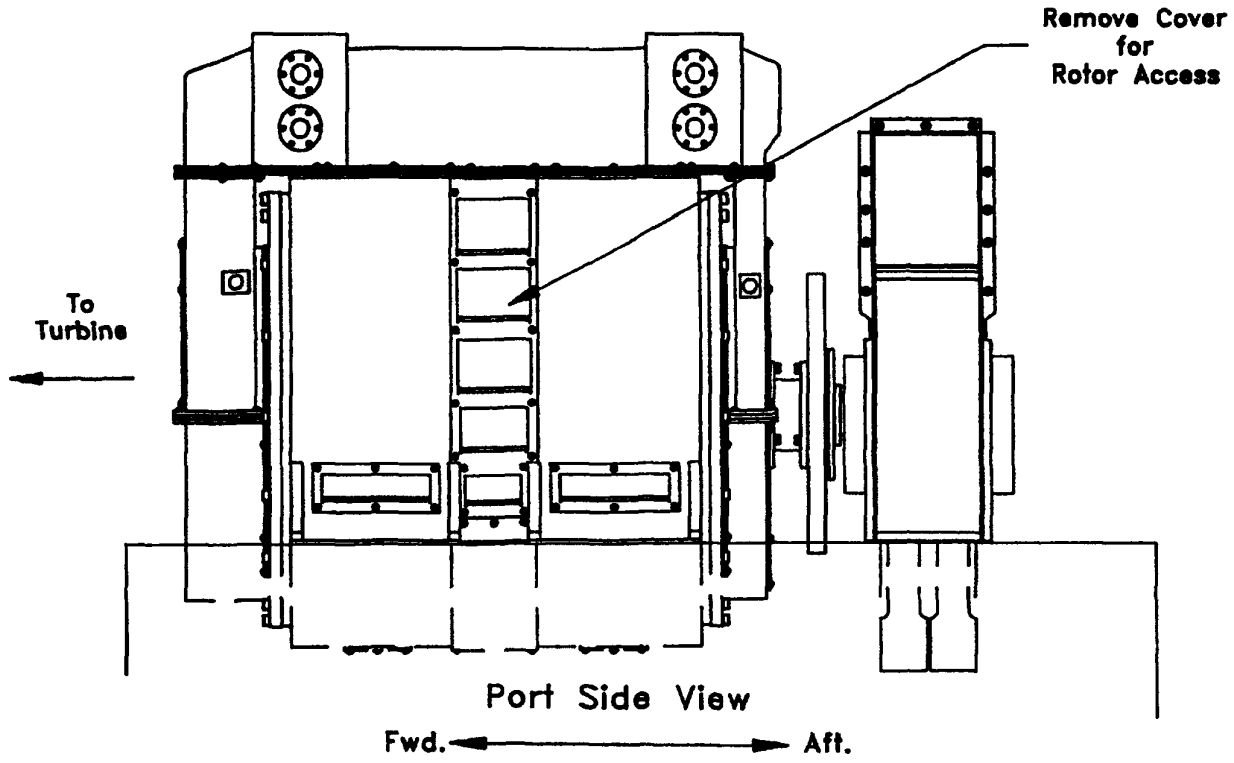

Figure 4-2 PFC Rotor Access for Insulation Resistance Check
11. Remove frame side cover from port (left) side of PFC (refer to Figure 4-2).